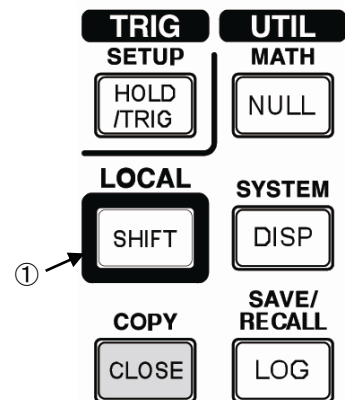

Figure 3.8 TRIG & UTILITY setting part
- ① Press [SHIFT] key in Figure 3.8. The blue indicator **SHIFT** lights up on the upper right of the screen.